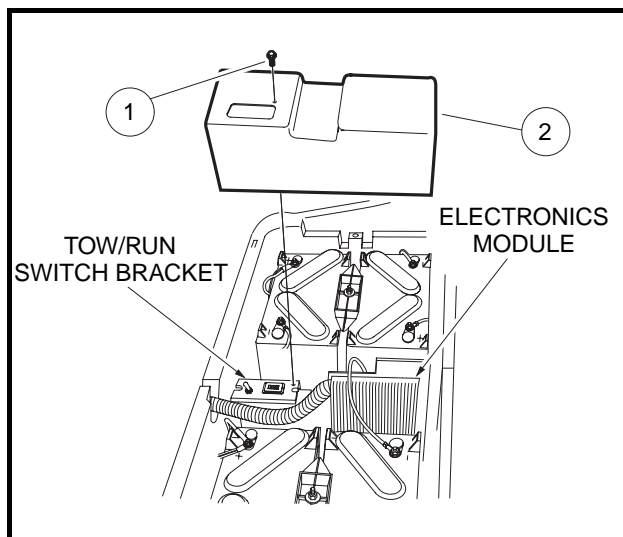

Figure 12-5 Electronics Module Cover
2. Remove the screw (1) that holds the cover (2) over the electronics module (**Figure 12-5, Page 12-5**).
3. Hold battery wire out of way and lift cover (2) off the vehicle.